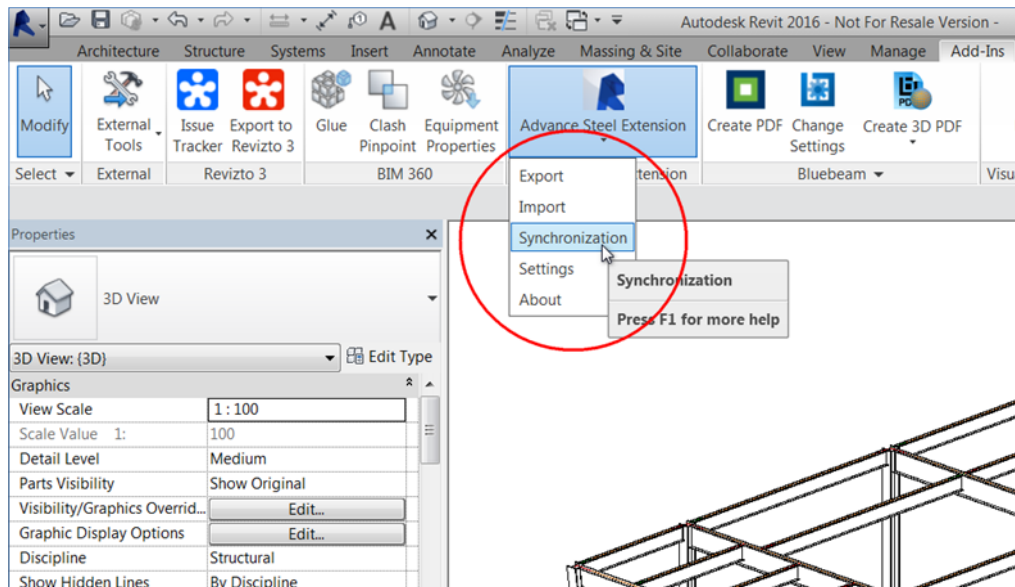

FIGURE 27: VALIDATING THE ADVANCE STEEL MODEL AGAINST AUTODESK REVIT STRUCTURE MODEL
1. In Autodesk Revit, from the **Add-Ins** ribbon tab > **Advance Steel Extension** ribbon panel, click **Synchronization**, as shown in Figure 27.